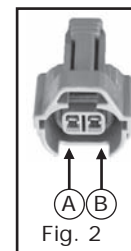

Fig. 2
If the tester reads connection types 6,7,8 or 9, proceed by following the diagram in figure 2.
**SA144J:** use this if the positive of the petrol injectors is on PIN A and the negative is on PIN B. Refer to figure 2.
**SA144JINV:** use this if the positive of the petrol injectors is on PIN B and the negative is on PIN A. Refer to figure 2.
Wiring type **SA144SJ** is equipped with JAPAN type pins and extended wiring for installation on SUBARU cars with a BOXER engine. It is used **ONLY** if the positive of the petrol injectors is on PIN B and the negative is on PIN A. Refer to figure 2.